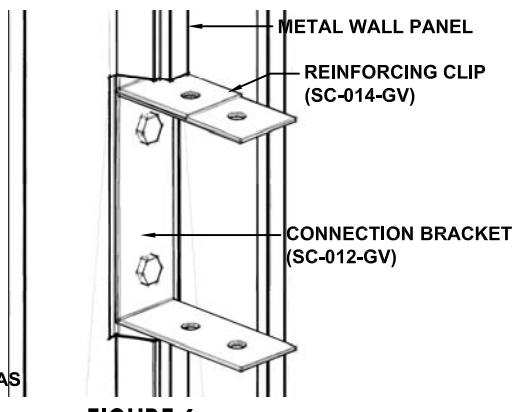

FIGURE 6
2. **Figure 6 - Use your selected holes in the Vertical Channel to drill pilot holes through your metal wall panel. If the pilot hole lands on or near a panel rib, cut a (+/-) 2" x 6" hole to allow the bracket to penetrate through the panel as shown (Figure 6). ALWAYS INSTALL THE TOP REINFORCING CLIP (SC-014-GV).**